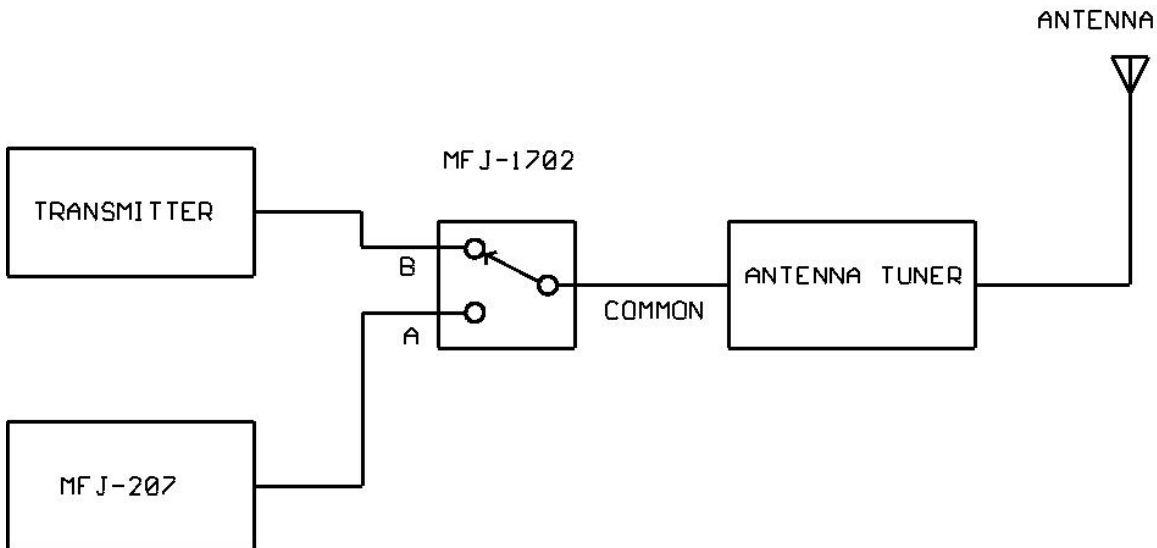

FIGURE 4: Hook-up for using the MFJ-207 to Tune Antenna Tuner
2. Connect the MFJ-207 to the antenna tuner's TRANSMITTER connector using a 2-3 foot length of RG-58 or RG-8. For ease of use see figure 4.